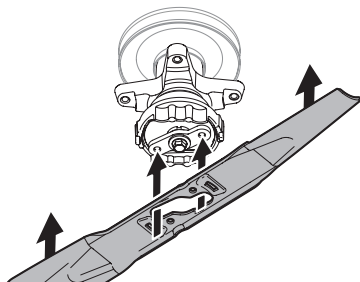

Figure 48
3. Position the blade under the spindle assembly and carefully align the large opening in the center of the blade over the tractor blade retainer. See Figure 48.